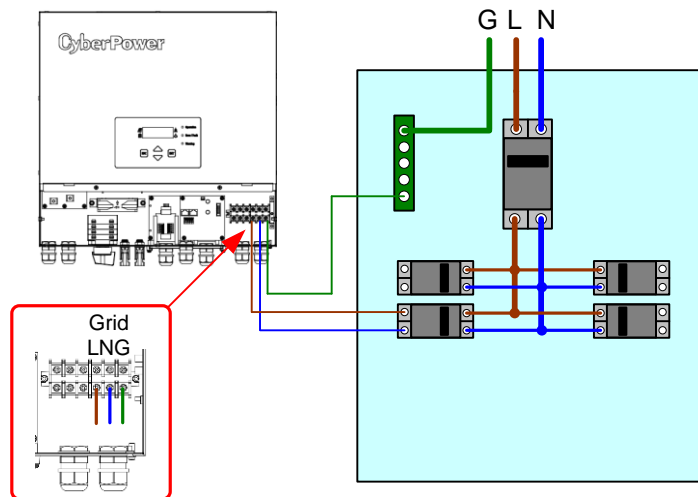

Fig. 3-5 Grid AC wiring
4. Tightly screw the Grid wires on the corresponding terminals (refer to Fig. 3-5).